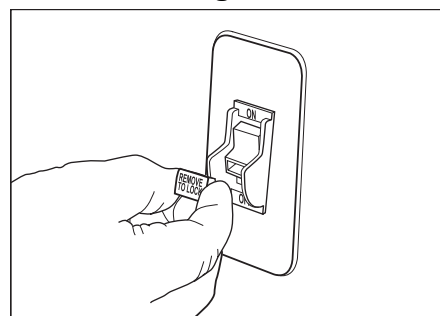

Fig.21
6. Remove the switch disabling key, as shown in Figure 21.